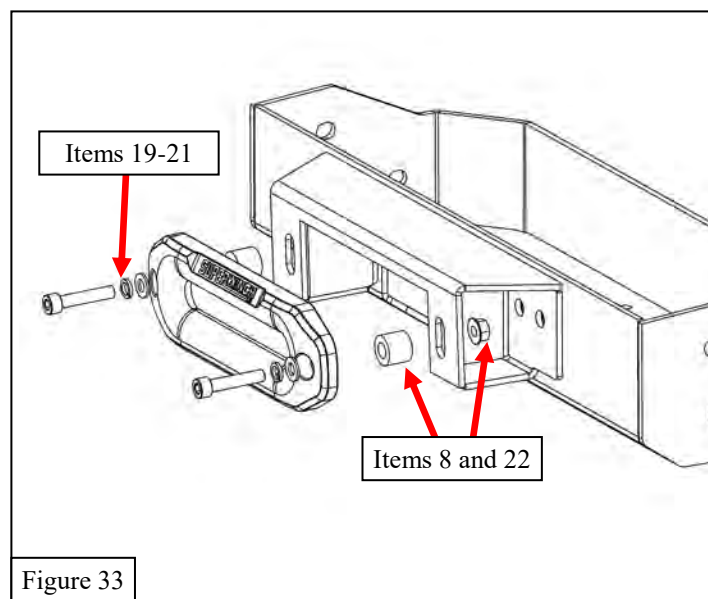

Figure 33
37. Loosely install the fairlead onto the Fairlead Mount Bracket (**item 2**) using the stainless M10 hardware (**items 19-22**) and the Spacers (**item 8**). See **Figure 33**.
38. Reattach the grille and bumper. Use the M8 hardware (**items 15-18**) to attach the bottom of the bumper to Support Brackets A, B, and C.